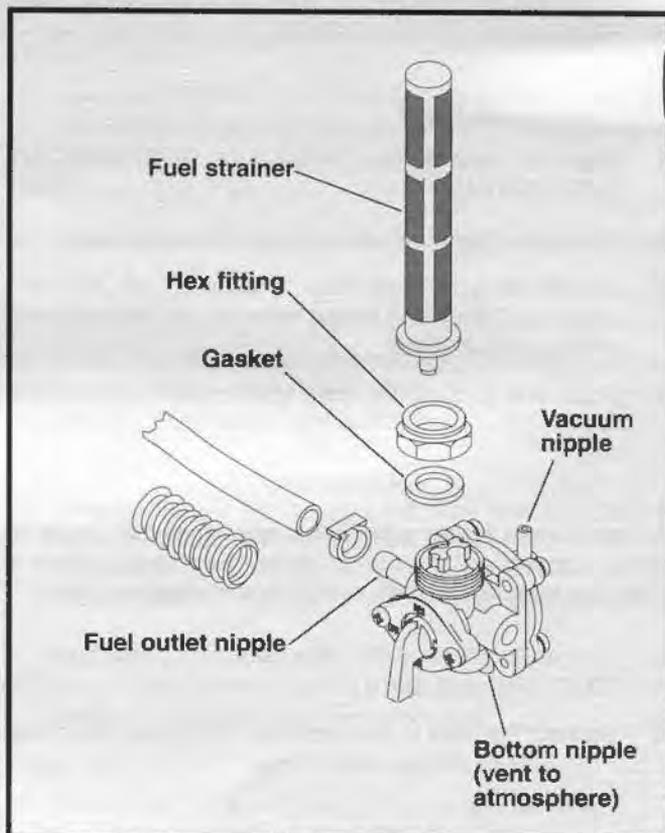

Figure 4-14. Fuel Supply Valve
2. See Figure 4-14. Remove the fuel hose from fuel outlet nipple and remove vacuum hose from vacuum nipple.